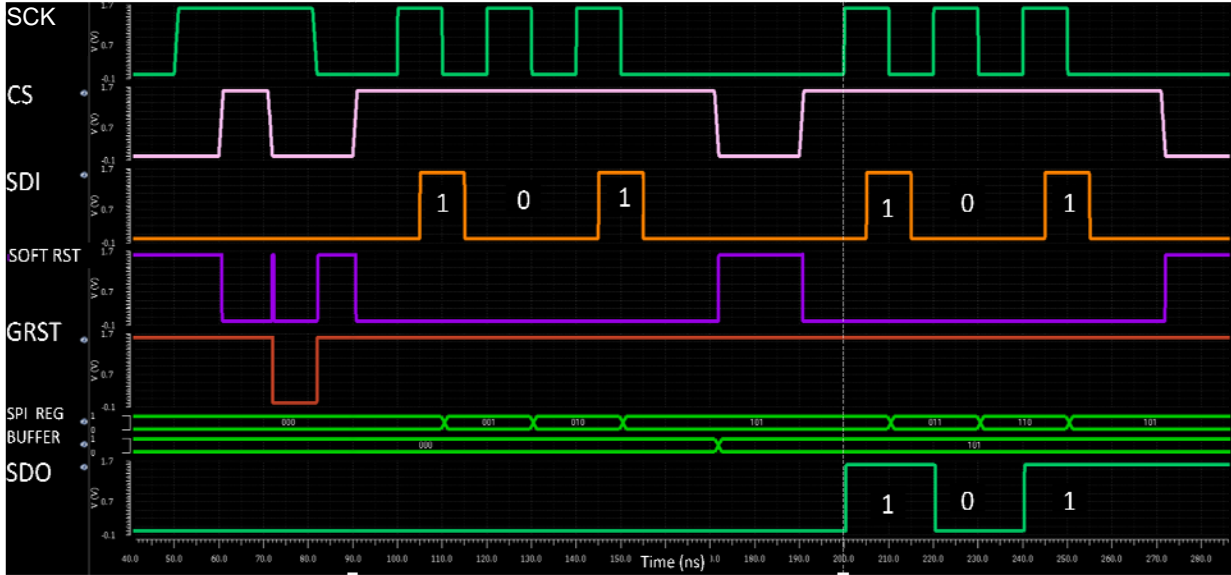

Figure 5 Timing diagram of a 3-bit SPI. Writing and reading the SPI with 101
A simplified timing diagram is shown in Figure 5 where 3-bits (101) are written to the SPI. When CS is high, the controller puts the ASIC in configuration mode. While CS is high, data is shifted most significant bit first (MSBF) into the SPI registers on CMOS pin SDI on the falling edge of CMOS pin SCK. The falling edge of CS latches the SPI register content into the configuration BUFFER. A second write to the SPI register put the previous write data on pin SDO.